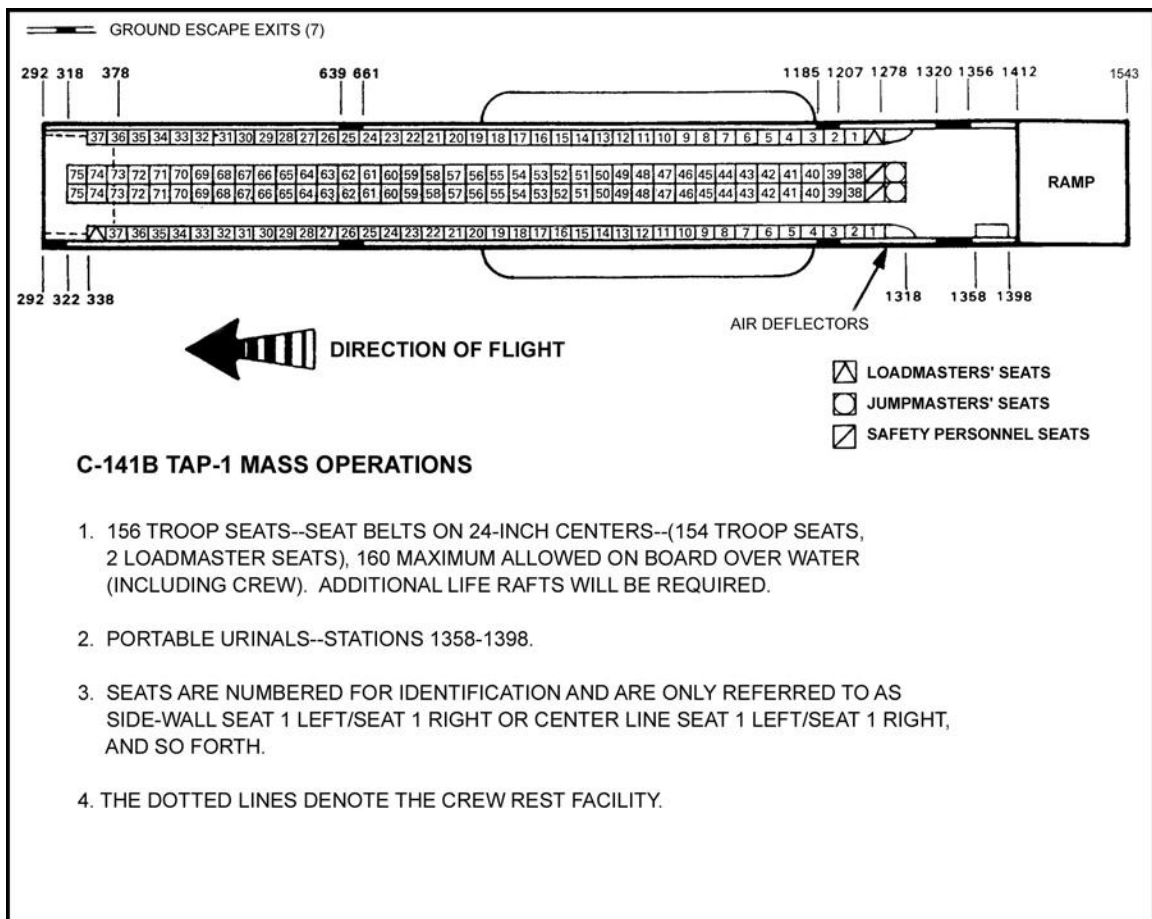

Figure 16-9. C-141B seating configuration without comfort pallet.
a. **Peacetime Training (TAP 1).** In this configuration, the C-141B seats 156 personnel: 152 parachutists, 2 static safety personnel, and 2 airdrop qualified loadmasters (Figure 16-9). The maximum number of personnel for each anchor line cable is 45.